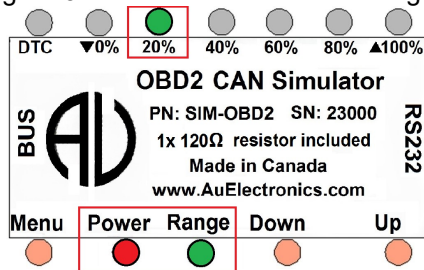

Figure 3-4
- If keep pressing **Up** button, the control step value will keep increasing. The 20% LED will then be always on, as shown in Figure 3-4. This indicates a data range between 21- 39%.